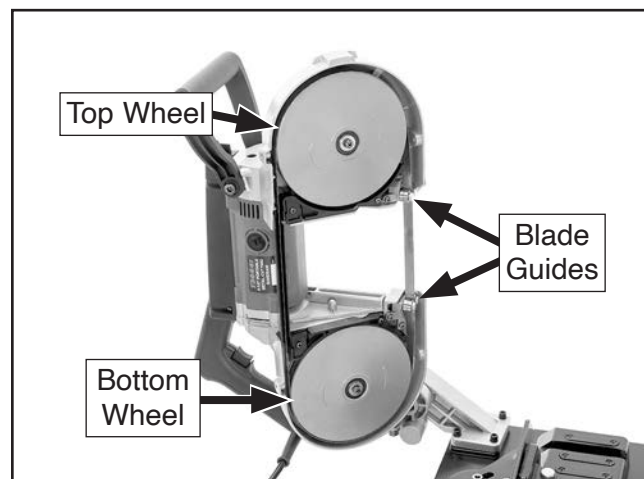

Figure 21. Blade positioned around blade wheels.
8. Remove old blade from blade wheels and slip it out of bearing blade guides (see **Figure 21**).